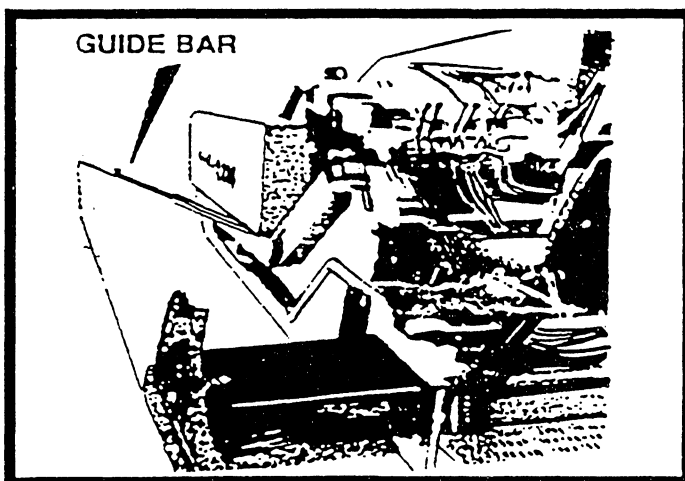

FIGURE 18
- B. Make sure to use a reference guideline. This can be a curb, gutter, adjacent mat or a string line. It is important that the first pass be straight as it will be the guideline for the following passes. Use the guidebar gauges as shown in figure 18.